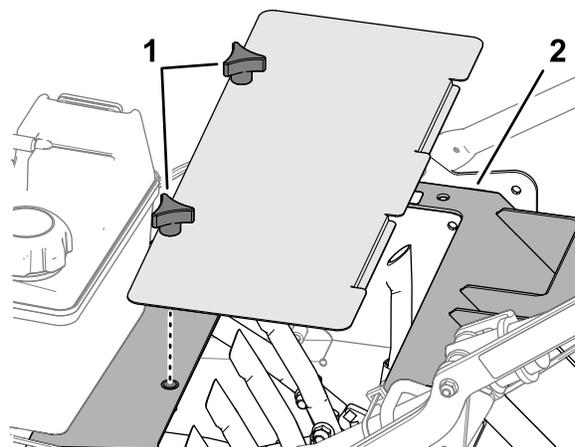

Figure 26
1. Align the tabs of the tine access cover with the opening in the tine housing (Figure 26).